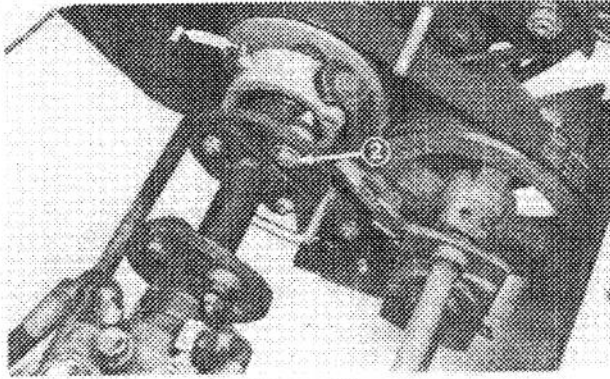

Figure 73
2. Remove capscrews, locknuts and spacers securing drive coupling assembly between engine hub and transmission hub (Fig. 73). Slide drive coupling assembly from between the hubs.
2. Slide two capscrews through transmission hub and install locknuts onto the capscrews (Fig. 73). Tighten capscrews and locknuts. Secure other end of rubber coupling to engine hub in the same manner.